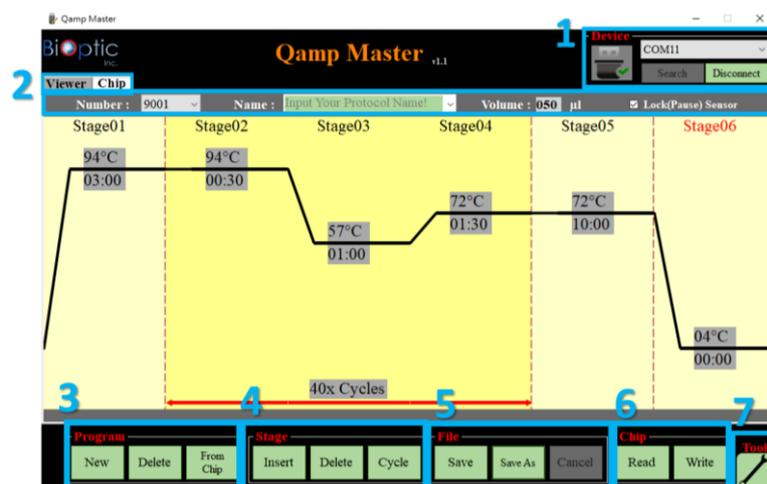

Figure 12. The main interface of QampminiTM Master after reading the Programmable Chip
- **Viewer/ Chip Tab:** Switch the view of program from database or the Programmable Chip (the chip tap only shows after reading the Programmable Chip) (Figure 12)